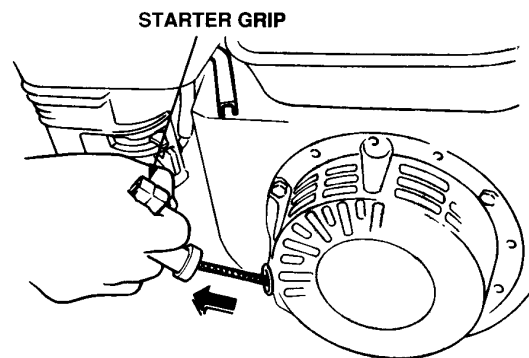

Figure 11. Starter Grip
7. Grasp the starter grip (Figure 11) and slowly pull it out. The resistance becomes the hardest at a certain position, corresponding to the compression point. Pull the starter grip briskly and smoothly for starting.